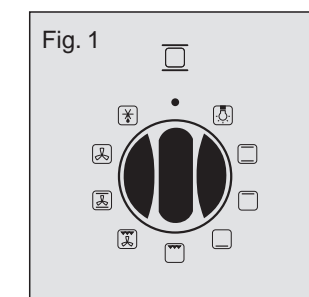
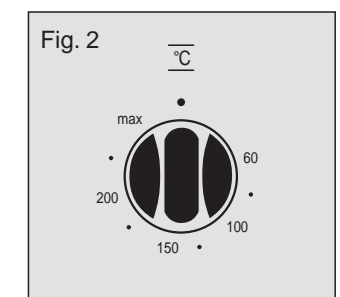

Fig. 1
Fig. 2
**Electric oven****Function selector knob (fig. 1)**
Turn the functions knob to the symbol  and then turn the thermostat knob (fig. 2) to the required temperature. Preheating of the oven is recommended until the thermostat indicator light switches off, to show the selected temperature has been reached in the center of the oven. This function is recommended for the foods needing highest cooking temperatures or in earthenware pots. When you want to cook your food heating it from bottom  turn the function knob to the symbol  and to the symbol when you want to heat the food from the top. With this cooking one tray only, centrally placed, has to be used.
Turn the function knob (fig. 1) to the symbol , then turn the thermostat knob (fig. 2) to required temperature. With this function more than on tray may be used at the same time because hot air is forced by the fan around the food and between the trays and also the temperature to be selected for cooking is 10-15% lower than the corresponding value for traditional baking and the action of the hot air will do more uniformly dried and crust your food. When using one tray only the lower runner is suggested to be used in order to have easier check by the oven window without opening the door. Preheating time will be very short (15 minutes are sufficient also for very sensitive items such as soufflés or whisked sponges) and the more common foods may be cooked from a "cold start".
Turn the function knob (fig. 1) to the symbol  when you wish to grill without fan and to the symbol  for fan assisted grilling. FOR GRILLING TURN THE THERMOSTAT KNOB (fig. 2) TO THE MAX. When switching on the grill the turnspit motor also will start at the same time. The fan assisted grill functions, corresponding to the symbol  is suitable for wet or thick food because the action of the hot air will more uniformly cook, and the heat will enter into the food more gradually by reducing the radiation of the grill. When use this function turn they knob on 200° thermostat.
Insert the supports "A" of the spit in to the proper holes "B" at the corners of the pan taking care that the support with the rod "C" must be placed on the left side of the pan. Run the meat through (balancing it properly to avoid unnecessary strain on the motor) and grip it securely with the forks. Insert the spit into the hole "E" on the left support; slide the pan on the first runner from the bottom. Check always that the spit end is properly inserted in the hole "E" and the rod "C" also, is properly inserted in the driving tip of the motor "F". We suggest for a better connection to turn the rod "C" a little bit when inserting into the hole "F". Switch on the turnspit turning the selector knob to the symbol . For rotisserie turn the thermostat knob fig. 2 to the 200°C.
Turn the function knob (fig. 1) to the symbol  and the thermostat knob (fig. 2) to the OFF position. Air at room temperature is forced by the fan around the food for fast defrosting. Remember to place the food on a tray, to collect the liquid from defrosting and to remove the packaging from defrosted foods before cooking.
This light is always on with every selected function by the function knob (fig. 1). When needing the inside lighted up without any heating element switched on turn the selector knob to the symbol .
Den Wählschalter in die Position  stellen. Auf diese Weise wird das Gebläse eingeschaltet, das die Luft im Ofen umwälzt und das Auftauen tiefgefrorener Speisen beschleunigt. Mit dem Wählschalter (Abb. 1) in der Position  den Thermostatknebel des Ofens (Abb. 2) in die Position 0 stellen.
Während des Ofenbetriebs ist die Beleuchtung stets eingeschaltet. Um die Beleuchtung bei ausgeschaltetem Ofen für die normale Reinigung einzuschalten, den Wählschalter (Abb. 1) in die Position  stellen.
Das Garen kann sofort mit vorprogrammierter Gardauer beginnen. Die maximal programmierbare Garzeit beträgt 2 Stunden. Die zu garenden Speisen in den Ofen, den Wählschalter und den Schalter des Ofenthermostats (Abb. 2) in die gewünschte Position stellen, dann die Schaltuhr mittels Drehgriff (Abb. 5) auf die gewünschte Garzeit einstellen. Das Garprogramm ist nun in Betrieb. Das Ende der Garzeit wird durch das automatische Ausschalten des Ofens und der Leuchtanzeigen angezeigt.
#### Wählschalter (Abb. 1) und Thermostatschalter (Abb. 2)